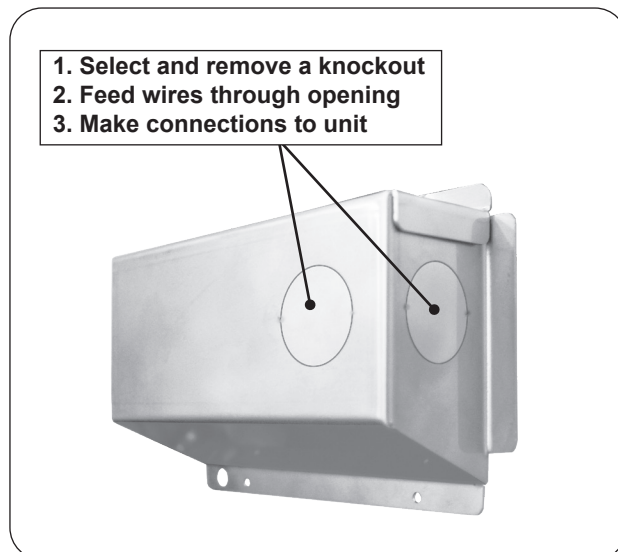

Fig. 23-1 Junction box knockouts
2. Remove the junction box located on the rear of the unit. Select and remove a knockout from the junction box that will best suit your electrical setup. Route the wiring through the selected knockout opening. See Fig. 23-1.